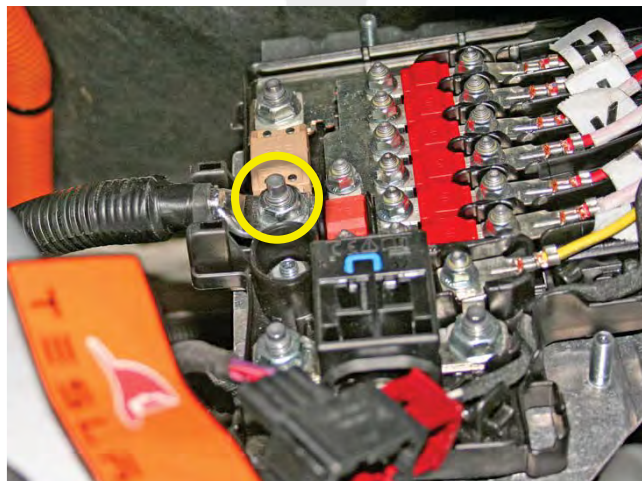

Figure 5
5. Remove the nut that secures 12V power supply for the DCDC converter (Figure 5).
36. Reinstall the nut that secures 12V power supply for the DCDC converter (torque 12.5 Nm) (Figure 5).